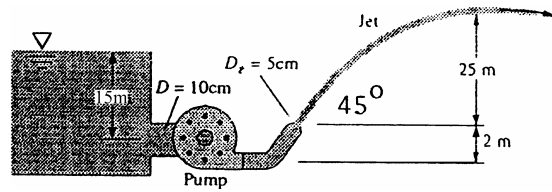

Fig. P3.144
3.144 The pump in Fig. P3.144 creates a 20°C water jet oriented to travel a maximum horizontal distance. System friction head losses are 6.5 m. The jet may be approximated by the trajectory of frictionless particles. What power must be delivered by the pump?